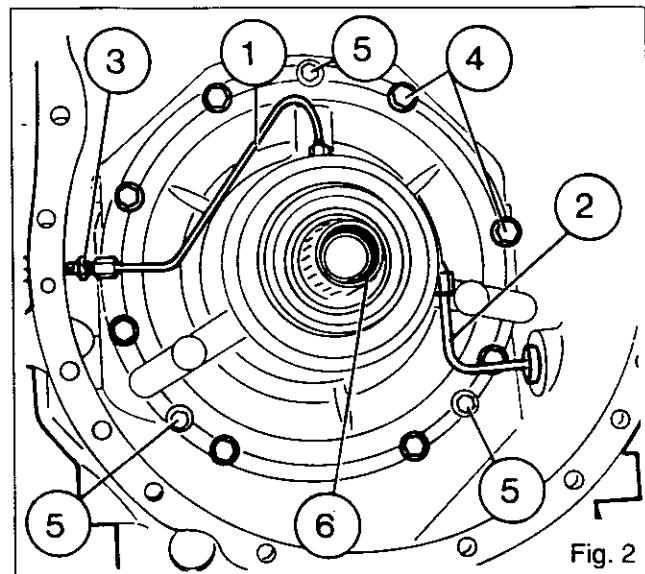

Fig. 2
6. Remove the PTO shaft and take out seal (6) (Fig.2).
7. Remove the bleed pipe (1) and supply pipe (2) and connector (3). Plug the passage openings (Fig.2).
9. Unscrew set-screws (34) and take off the selector dog (33).
10. Unscrew the 8 bolt diam. 10 mm (4) (Fig.2).
**N.B.: Do not remove the three bolts (5) (Fig.2) (with speedshift).**